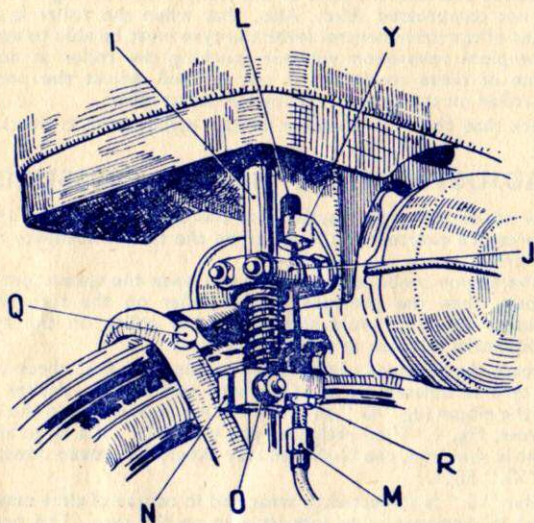

Fig. 4
Adjust the guide rod "I" at the quadrant so that it is vertical, then thread the compression spring "K" and the domed washer on to it. The guide rod should then be passed between the guide rollers "J" and be maintained in position by the locking plate. (Fig. 4).
- (9) The controls should now be mounted on to the handlebars of the bicycle, the speed control (throttle) on the right-hand side, and the drive control on the left-hand side. Set the position of the control levers to be convenient, but make sure that the cables have easy sweeping bends and are not led round sharp corners or are kinked. The speed control cable is already coupled up to the carburettor and needs no further adjustment.
- (10) To couple up the drive control cable, first fit the round nipple into the handlebar lever and then push the cable into the groove in the lever, allowing the outer conduit to engage in the abutment. Now turning to the engine end of the cable, pass the inner cable through the slot in the adjuster screw bracket "N" and screw the adjuster screw "M" right home. (Fig. 4.) Now enter the cylindrical
- (11) Make sure that when the engine is engaged on the tyre (i.e., drive position of the handlebar lever) the roller does not slip if the bicycle is pushed and that the coils of the compression spring "K" (Fig. 4) are not compressed solid. Also, that when the roller is lifted by means of the drive control lever the tyre must be able to accomplish a complete revolution without touching the roller at any point. If one of these conditions is not fulfilled, adjust the pressure of the roller on the tyre (see following paragraph).
- (12) Check that the float chamber of the carburettor is vertical.